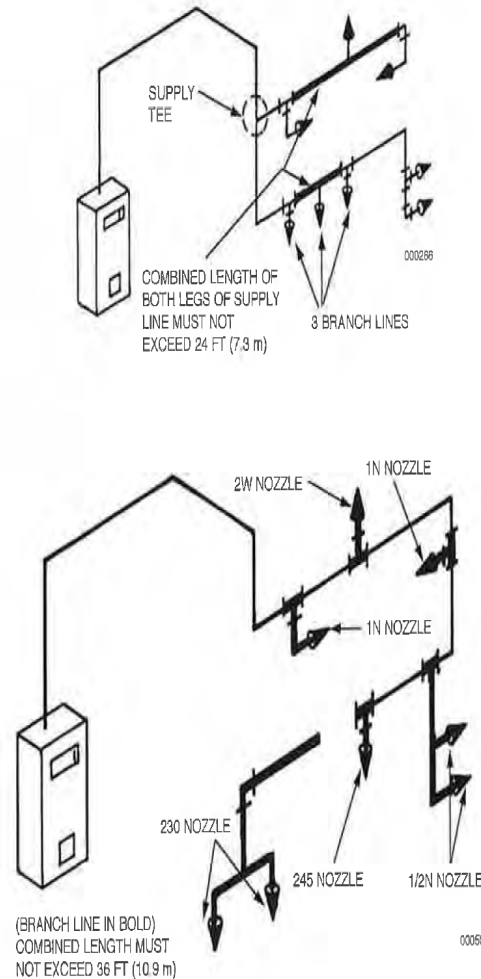

FIGURE 4-134
1. The maximum length between the start of the first branch line and the start of the last branch line must not exceed 24 ft (7.3 m). When the supply line is split, the **combined total** of both legs of the supply line (from the start of the first branch line to the start of the last branch line) must not exceed 24 ft (7.3 m). See Figure 4-134.
2. The total length of all branch lines must not exceed 36 ft (10.9 m). See Figure 4-134.